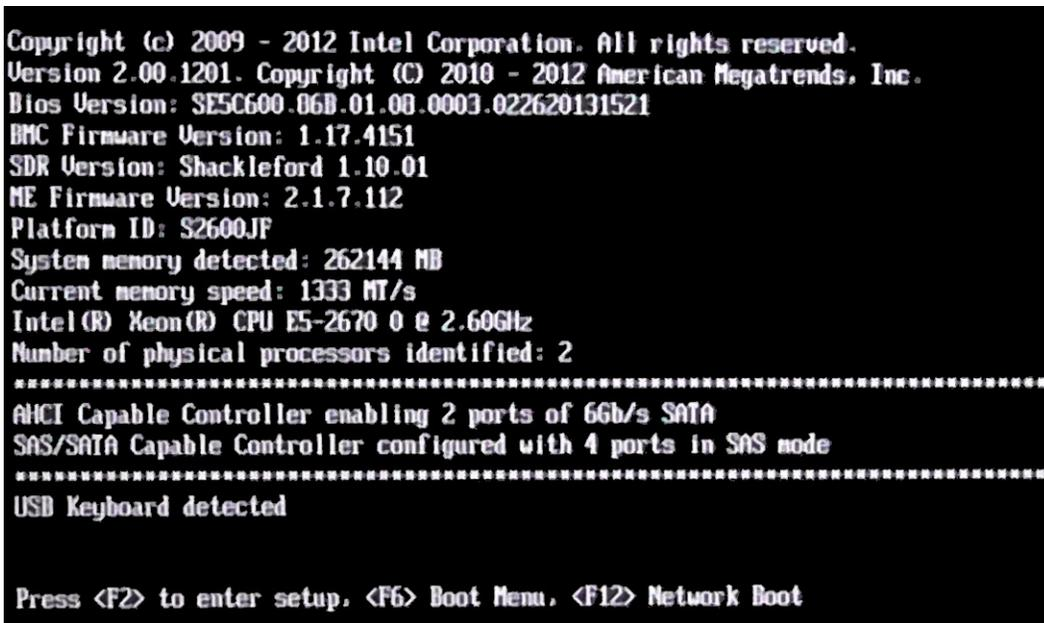

Figure 1-59 POST Prompt to enter Setup
1. To enter setup, press **F2** when prompted (Figure 1-59) or during the first splash screen (if **Quiet Boot** is **Enabled**, no prompt will be shown).